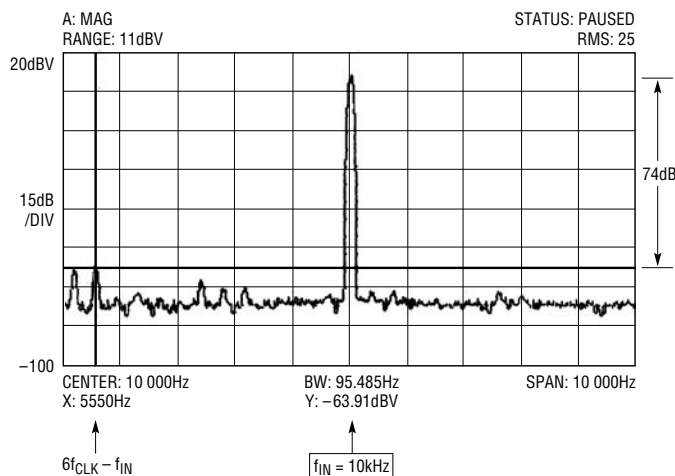
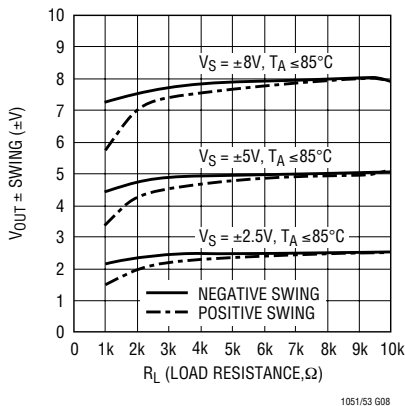

Figure 5b. Same as Figure 5a, but the AC Input Signal is 900mV, 10kHz
Figure 8. Output Voltage Swing vs Load
Although initially chopper stabilized op amps were designed to minimize DC offsets and offset drifts, the LTC1051/LTC1053 family, on top of its outstanding DC characteristics, presents efficient AC performance. For instance, at single 5V supply, each op amp typically consumes 0.5mA and still provides 1.8MHz gain bandwidth product and 3V/ μ s slew rate. This, combined with almost distortionless swing to the supply rails (Figure 8), makes the LTC1051/LTC1053 op amps nearly general purpose. To further expand this idea (the “aliasing” phenomenon) which can occur under AC conditions, should be described and properly evaluated.
3. The number of alias signals increases when the input signal frequency increases (Figure 5b).
4. When the frequency, f_{IN} , of the input signal is less than f_{CLOCK} , the alias signal(s) amplitude(s) directly scale with the amplitude of the incoming signal. The output “signal to alias ratio” cannot be increased by just boosting the input signal amplitude. However, when the input AC signal frequency well exceeds the clock frequency, the amplitude of the alias signals does not directly scale with the input amplitude. The “signal to alias ratio” increases when the output swings closely to the rails. (See Figure 5b and Figure 7.) It is important to note that the LTC1051/LTC1053 op amps, under light loads ($R_L \geq 10\text{k}$), swing closely to the supply rails without generating harmonic distortion (Figure 8).